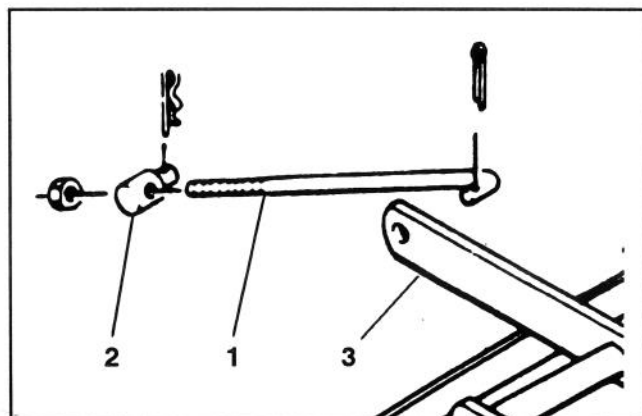

Figure 1
2. Remove hair pin cotter securing leveler rod trunnion to gage wheel shaft and cotter pin securing other end to deck leveler (Fig.1). Remove leveler rod assembly and retain for assembly later.
- 1. Gage Wheel Shaft Mounting Bracket (2)
12. Remove lock nut and trunnion from leveler rod previously removed and install on new leveler rod (Fig. 1).
13. Secure curved end of leveler rod to deck leveler with a cotter pin (Fig. 1).
14. Secure leveler rod trunnion to gage wheel shaft with a hair pin cotter (Fig. 1). After reinstalling mower, adjust leveler rod per instructions in Mower Operator's Manual.